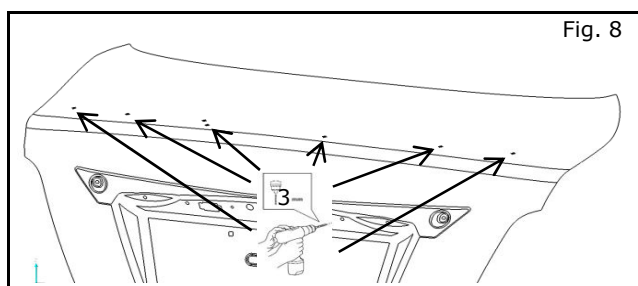

Fig. 8
- e) Drill 3mm (1/8") pilot holes at the seven (7) punch mark locations. (Fig. 8)